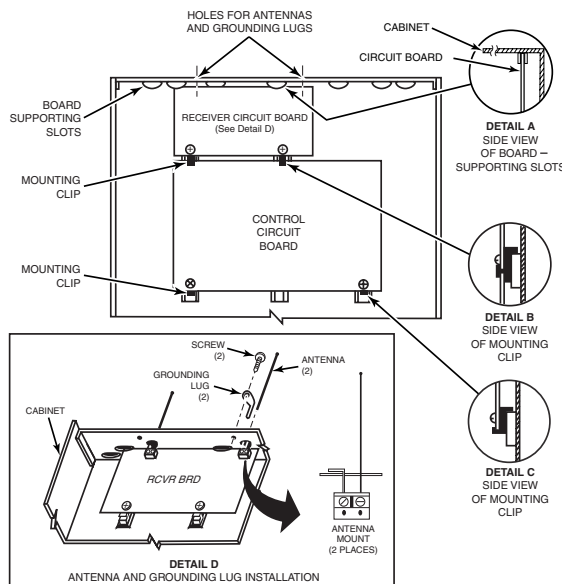

Figure 2. Installing the 5883 Board in the Control's Cabinet (Check the control's Installation and Setup Guide for applicability.)
#### Mounting inside the control's cabinet (refer to Fig. 2):
- Hang two short (black) mounting clips (provided) on the raised cabinet tabs in the cabinet, as shown in Detail B of Figure 2.
- Mount the module in the selected location. For greatest security, use all four mounting holes (two keyslot holes and two round holes) in the plastic base. (Refer to Detail D in Figure 2 above.)
2. Insert the top of the board into the supporting slots at the top of the cabinet (see Detail A, Figure 2).